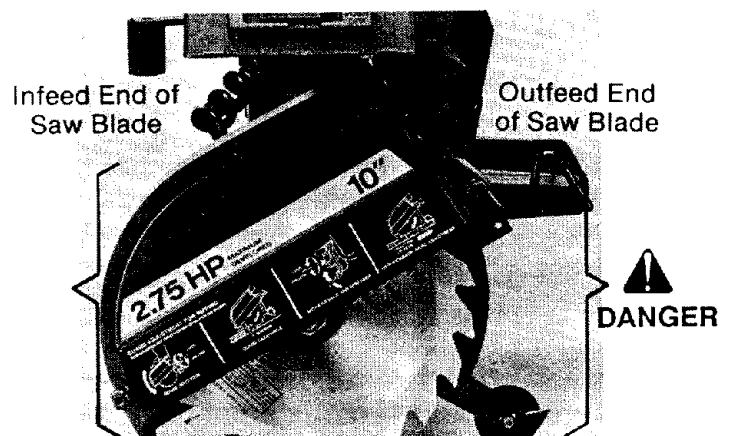

Fig. 154 Infeed and Outfeed Ends of Saw Blade
Wrong way feed is feeding the workpiece into the end of the blade with pawls, the outfeed end. (Fig. 154) There are two things that can happen if you feed the workpiece into the outfeed end of the saw blade:
4. Go to the in-feed end of the saw blade. Fig. 154.